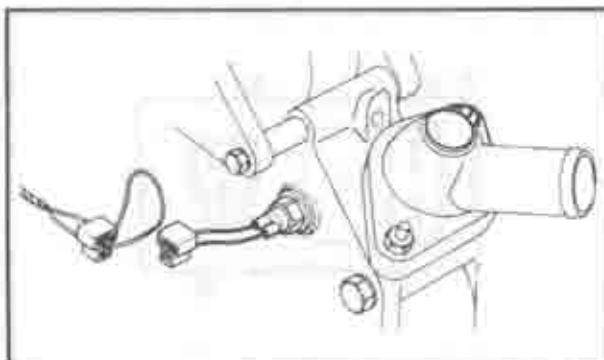

Fig. 1A-11. Connecting jumper wire
3. Disconnect the coupler of the water temperature switch and connect a jumper wire to both terminals in the coupler (from control unit) as shown in Fig. 1A-11.